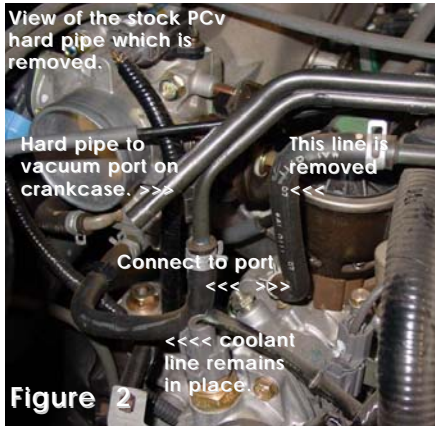

Figure 2
- 2 Remove the PCV pipe and water bypass hose. See diagram (A) Reuse the stock hose to close the loop or reconnect the coolant line. Use the stock clamps to secure the hose. (See figs 2 & 3)